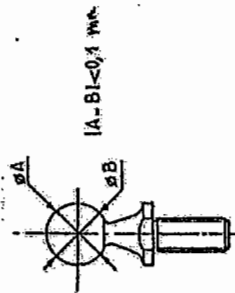

FIG. 2
The following systems to secure l'Hotellier ball and socket connectors are LBA-approved: Uerlings sleeves or Uerlings type sleeves (see section III), safety pin (figures 2 and 2a), LS-safety sleeve (figure 3), Schempp-Hirth spring (figure 4) und Wedekind locking system (figure 5).
- 2.2. BALL SPHERICITY MEASUREMENT (See fig. 2)